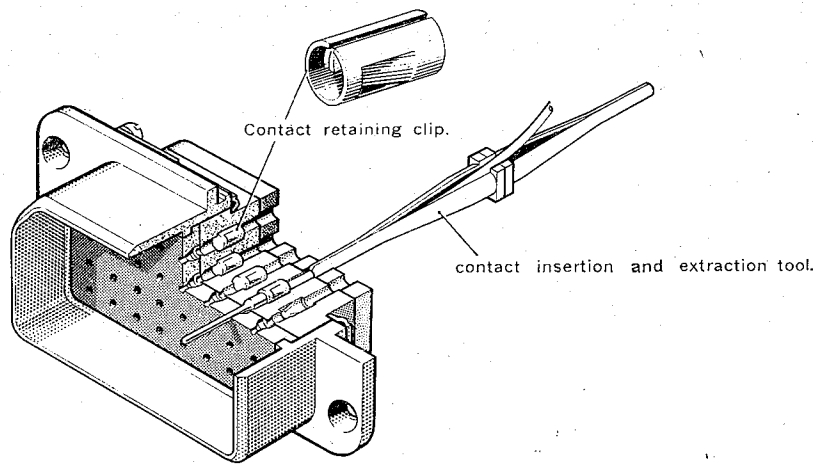

Fig. 4. DPAMA crimped connector
(2) Offer the tip of the ejector tool over the rear of the contact (fig. 4), and keep it in line with the connector axis.
(3) Push on the rear of the extraction tool with a gently increasing pressure until the contact clip is felt to open.
(4) Withdraw the extraction tool complete with the contact and remove the exposed contact from the extraction tool.